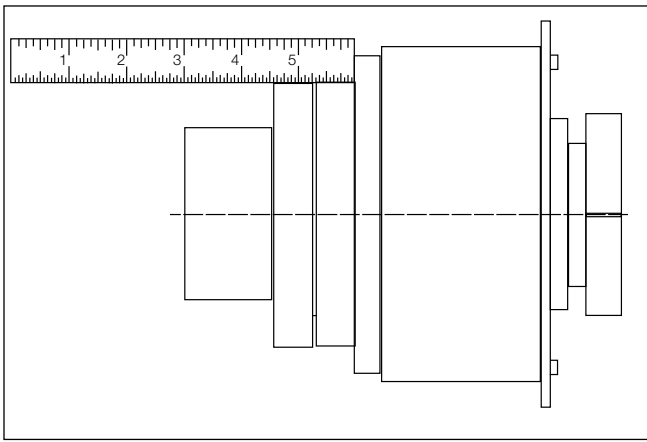

Figure 12 – Parallel “R” Coupling Alignment
- a. Place a straightedge across the coupling flange and clutch as shown in Figure 12.